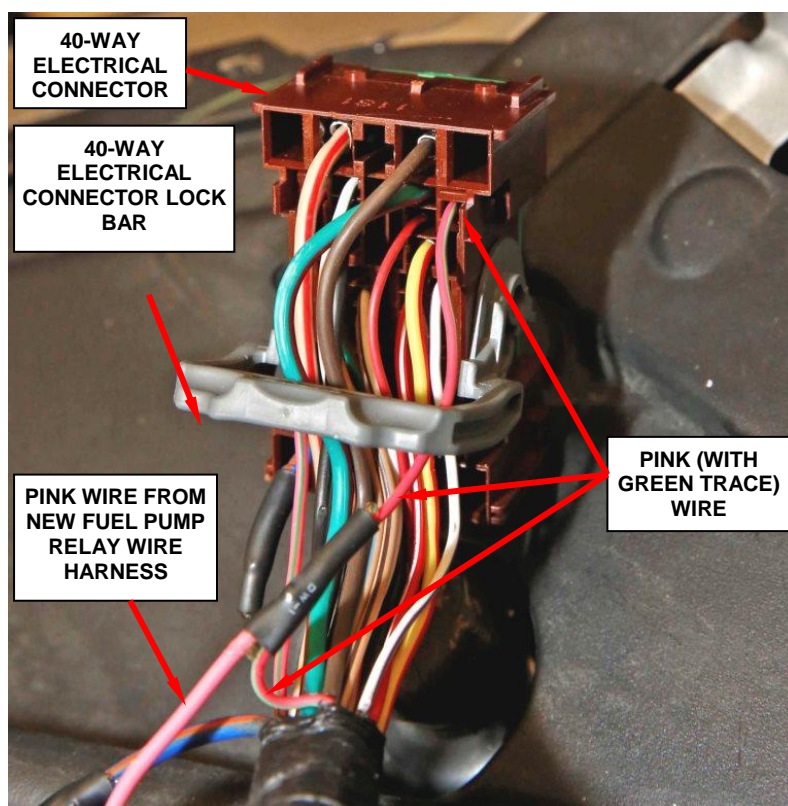

Figure 22 – Install Pink (with Green Trace) Wire Terminal into the same cavity on the 40-Way Connector from which it was removed
24. Carefully install the wire terminal for the pink (with green trace) wire back into the same cavity (cavity 38) in the 40-way electrical connector that it was removed from (Figure 22).